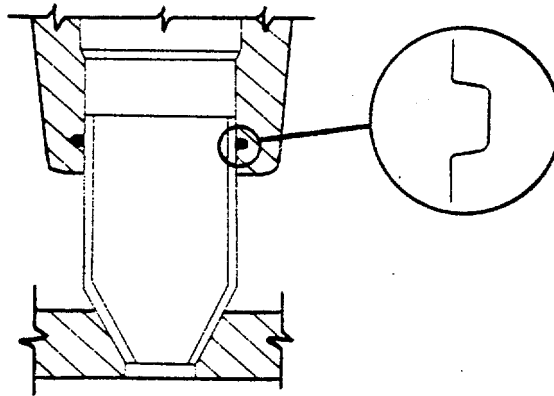

FIGURE 4-15. *Installing Injector Sleeve Packing*
- (a) Apply a coat of clean lubricating oil to a new sleeve packing. Install the packing into the groove in the bore for the sleeve (Figure 4-15).